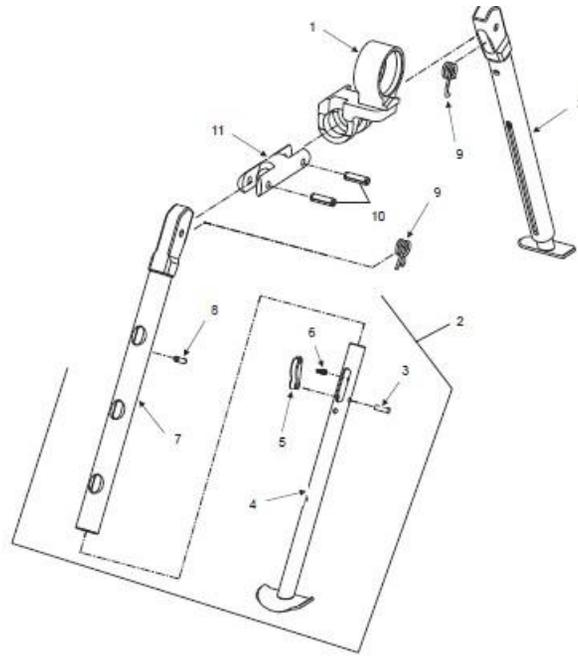

Figure 2. Bipod Assembly
4. Extend the bipod leg until the spring pin (Figure 2, item 8) is visible in the center slot. Drive spring pins (Figure 2, Item 8) out of the leg assemblies (Figure 2, Item 11) with a 1/8 inch punch. Remove inner leg (Figure 2, Item 10) carefully to catch springs (Figure 2, Item 5). Discard springs and spring pins (Figure 2, Items 5 and 8).
5. Push headless pins (Figure 2, Item 7) out of inner legs (Figure 2, Item 10) and remove latches (Figure 2, Item 6).
1. Place helical spring (Figure 2, Item 5) and bipod leg latch (Figure 2, Item 6) into inner leg (Figure 2, Item 10). Ensure helical spring is seated in cut out area in inner leg (Figure 2, Item 10). Align bipod leg latch (Figure 2, Item 6) hole with inner leg (Figure 2, Item 10) hole and insert headless pin (Figure 2, Item 7) until flush.
2. Insert inner leg (Figure 2, Item 9) into outer leg (Figure 2, Item 9) pushing down on bipod leg latch (Figure 2, Item 6) until it enters and snaps into the cut out area of outer leg (Figure 2, Item 9). Extend the leg until the hole is visible in the center slot.
3. While observing the center notch, extend the inner leg approximately 1.5 inches below the outer leg. Insert the new spring pin (Figure 2, Item 8) until flush.